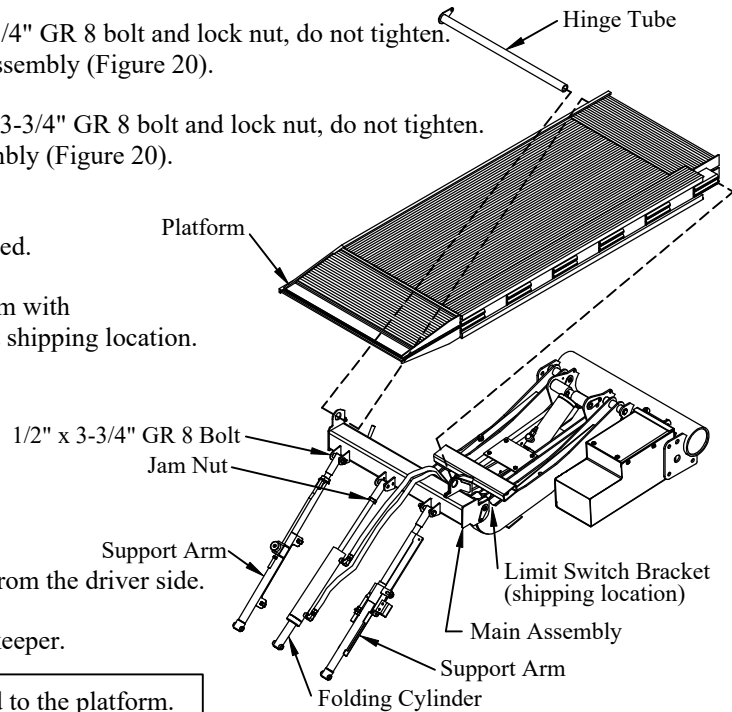

Figure 20: Platform parts location.
1. **Install** the support arms on the main assembly, using a 1/2"x3-3/4" GR 8 bolt and lock nut, do not tighten. The threaded end of the support arm goes toward the main assembly (Figure 20).
2. **Install** the folding cylinder on the main assembly, using a 1/2"x3-3/4" GR 8 bolt and lock nut, do not tighten. The threaded end of the cylinder goes toward the main assembly (Figure 20).